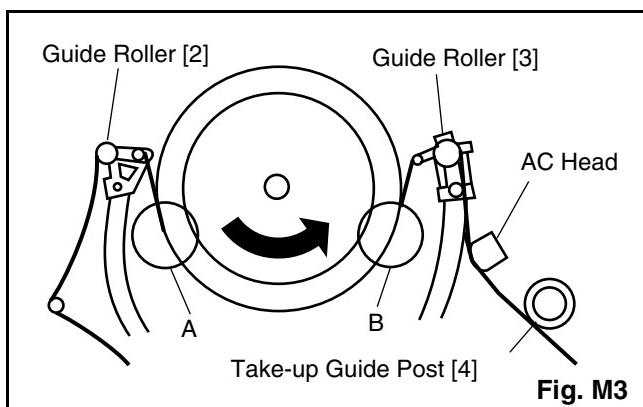

Fig. M3
1. Play back a blank cassette tape and check to see that the tape runs without creasing at Guide Rollers [2] and [3], and at points A and B on the lead surface. (Refer to Fig M3 and M4.)
2. If creasing is apparent, align the height of the guide rollers by turning the top of Guide Rollers [2] and [3] with a Guide Roller Adj. Screwdriver. (Refer to Fig. M3 and M5.)
3. Check to see that the tape runs without creasing at Take-up Guide Post [4] or without snaking between Guide Roller [3] and AC Head. (Fig. M3 and M5)
2. Play back the Gray Scale on the Alignment Tape (FL8NW). Set the Tracking Control Circuit to the center position by pressing CH UP button and then "PLAY" button on the unit. Adjust the height of Guide Rollers [2] and [3] (Fig. M3, Page 2-3-3) watching the oscilloscope display so that the envelope becomes as flat as possible. To do this adjustment, turn the top of the Guide Roller with the Guide Roller Adj. Screwdriver.
3. If the envelope is as shown in Fig. M7, adjust the height of Guide Roller [2] (Refer to Fig. M3) so that the waveform looks like the one shown in Fig. M9.
4. If the envelope is as shown in Fig. M8, adjust the height of Guide Roller [3] (Refer to Fig. M3) so that the waveform looks like the one shown in Fig. M9.
5. When Guide Rollers [2] and [3] (Refer to Fig. M3) are aligned properly, there is no envelope drop either at the beginning or end of track as shown in Fig. M9.
Note: Upon completion of the adjustment of Guide Rollers [2] and [3] (Refer to Fig. M3), check the X Value by pushing the CH UP or DOWN buttons alternately, to check the symmetry of the envelope. Check the number of pushes to ensure center position. The number of pushes CH UP button to achieve 1/2 level of envelope should match the number of pushes CH DOWN button from center. If required, redo the "X Value Alignment."